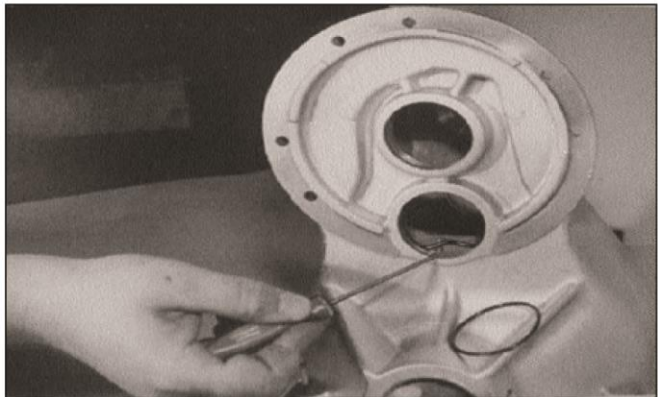

Figure 7-19
19. Remove O-rings from outer input bearing bore and both intermediate bores. See Figure 7-19.
5. Install outer snap ring (16) at input shaft bore. See Figure 7-19.
6. After O-rings (10) are installed on shaft (9) and housing (1), install intermediate shaft and gear assembly (9) through bottom opening in housing.